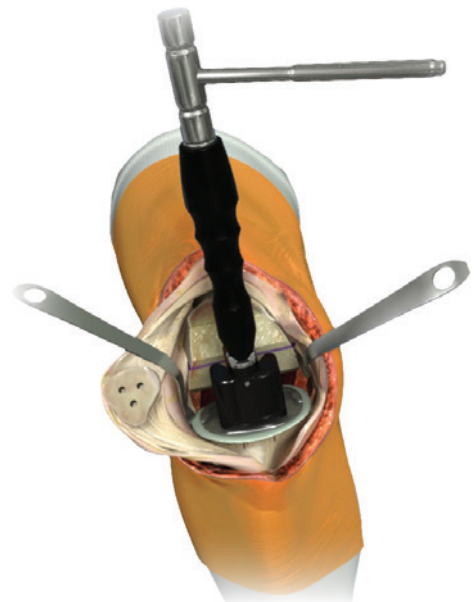

Figure 27
3. Use the tibial implant impactor on the modular handle and mallet to fully seat the tibial baseplate component onto the proximal tibia. Remove excess cement (Figure 27).